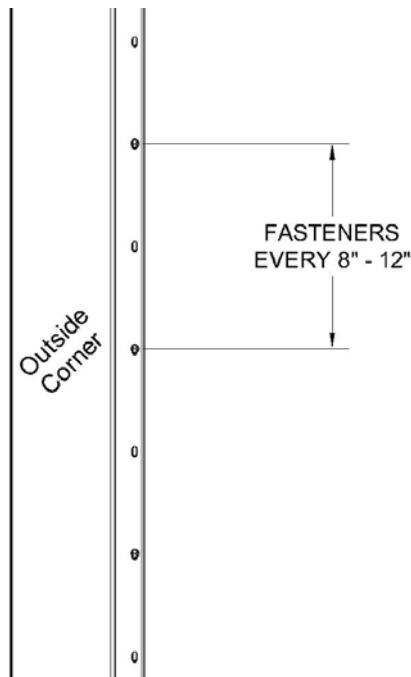

Fig. 1
3. Fasten the outside corner to the wall using galvanized, stainless, or corrosion resistant nails or screws approximately every 8" to 12" along the nail hem (Fig. 1).